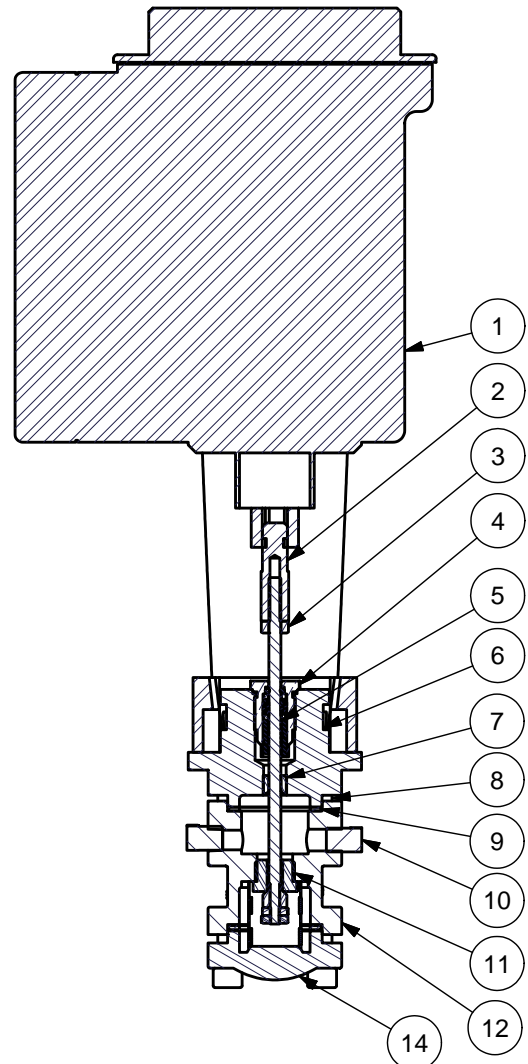

Figure 2 - VH210 Parts List
- b. Sticking or binding of the pilot valve stem (5), Figure 2. Look for deposits or bits of scale on the stem (5) or guide (8).